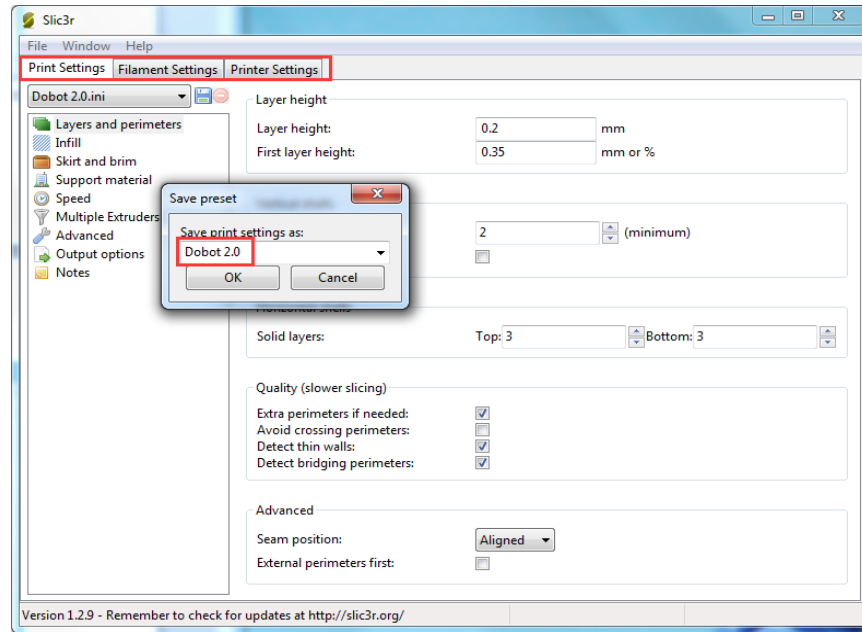

Figure 5.128 Save configuration file
5. Save the **Printing Settings**, **Filament Settings** and **Printer Settings** tabs respectively after importing configuration sample, as shown in Figure 5.128.